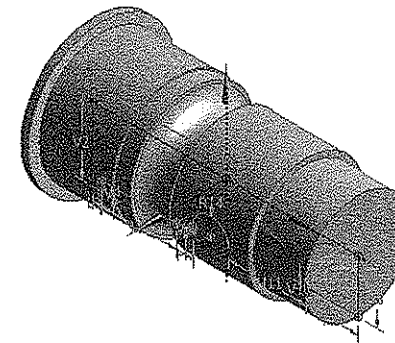

Figure 5-63 Revolved feature created
5. Choose the **Generate** tool in the **Features** toolbar; the revolved feature is created, as shown in Figure 5-63.